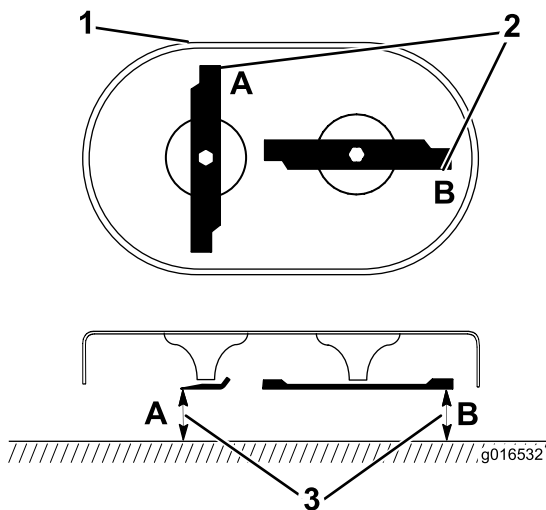

Figure 37
1. Rotate the blades until they are positioned as shown in Figure 37.
2. Measure from a level surface to the cutting edges at locations **A** and **B**, (Figure 37), and record both dimensions.